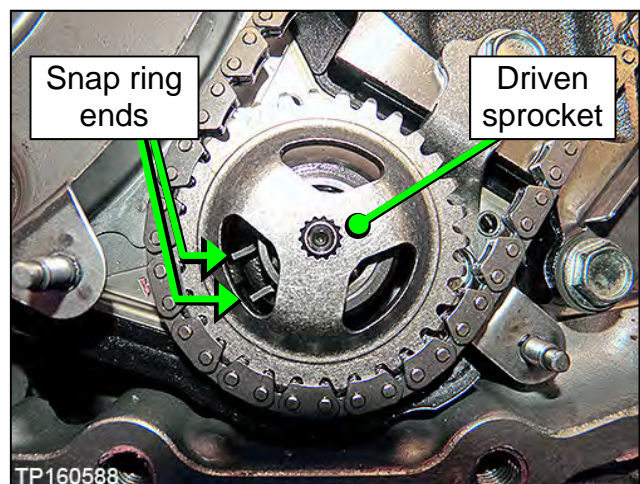

Figure 168
- Expand the snap ring with a suitable tool, and then push down on the driven sprocket until it bottoms out (Figure 168).